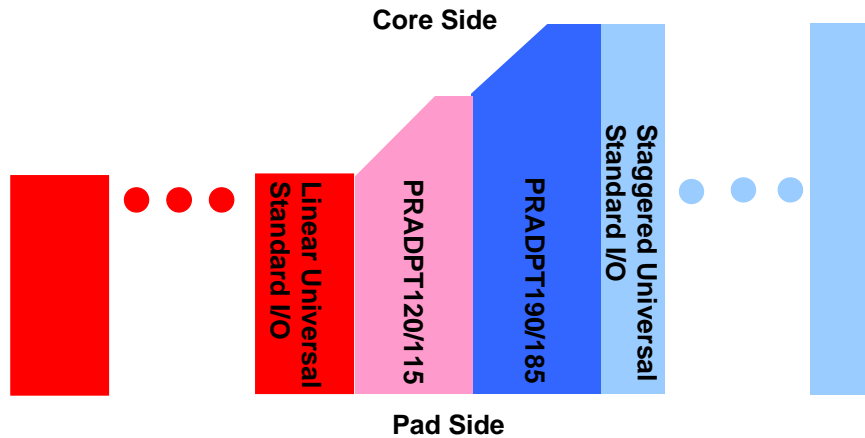

Figure 7.23 Use PRADPTx Cells to Bridge between Staggered Universal Standard I/O and Linear Universal Standard I/O
Step 3: Have the other side of PRADPT120/PRADPT115 placed right next to the other side of PRADPT190/PRADPT185 as illustrated in *Figure 7.23*.